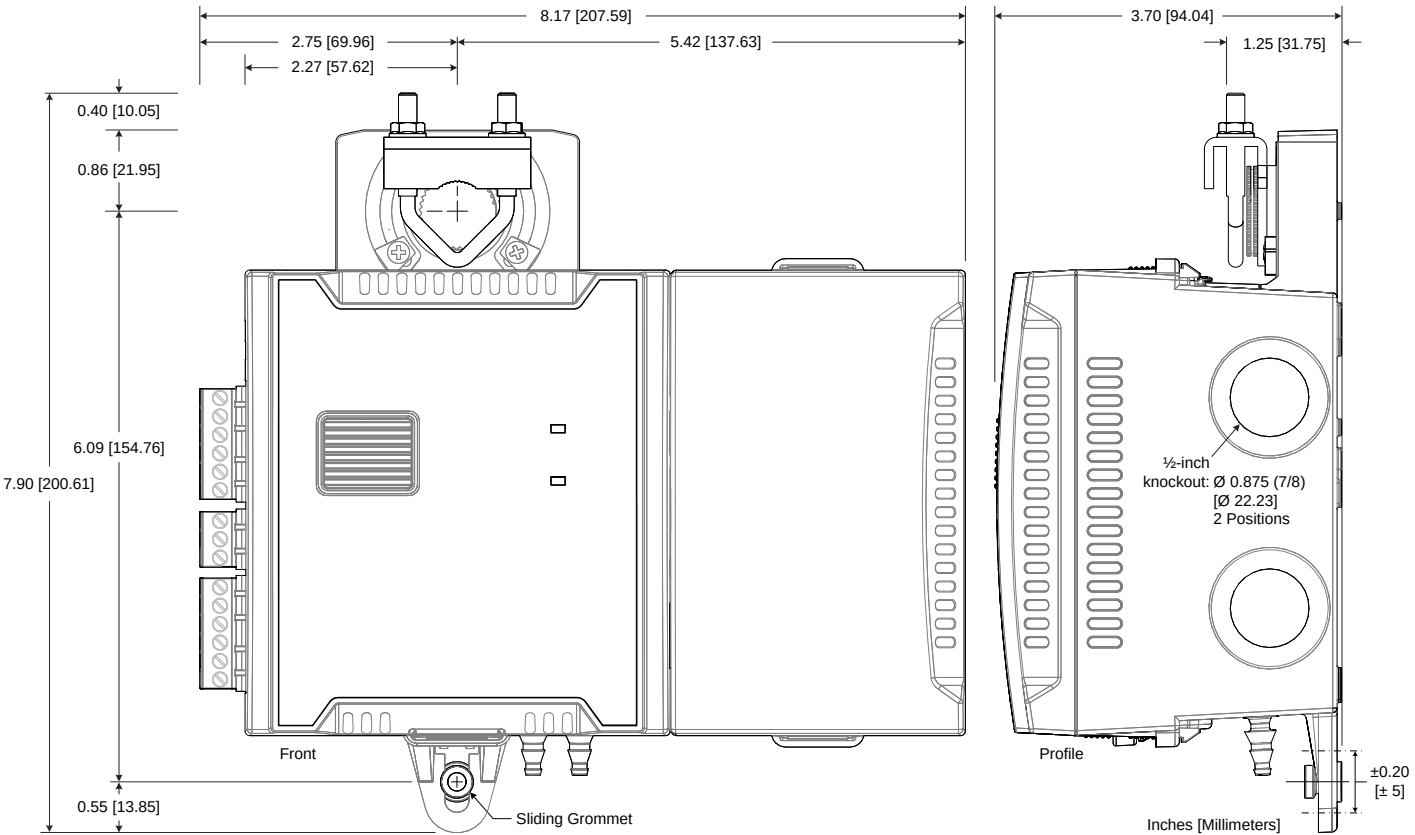
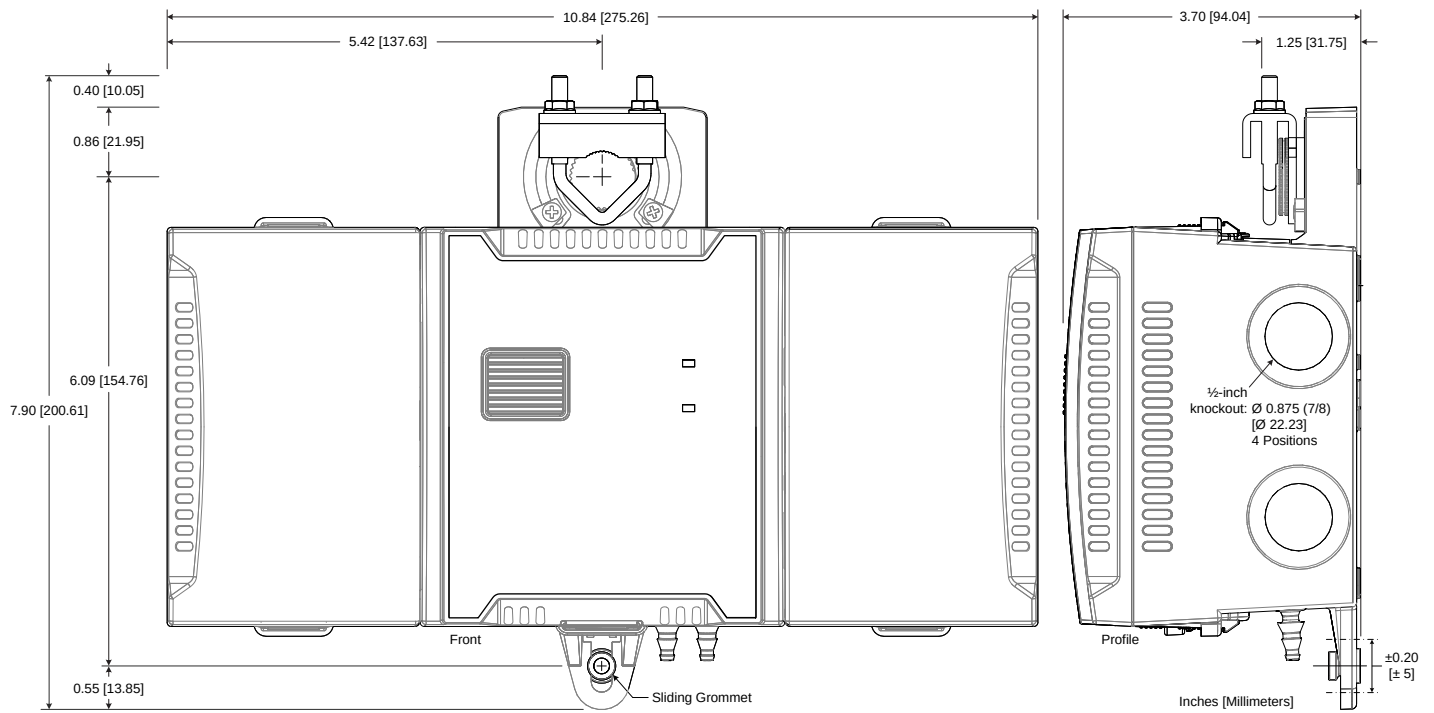

Figure 4: ECY-VAV-PoE Model Dimensions
Figure 5: ECY-VAV Series Controllers with Terminal Covers Dimensions (Typical)
- ☐ The ECY-VAV-PoE models come with a single terminal cover that has internal circuitry which must be installed on the side shown in Figure 4. A second terminal cover can be added to the other side of the ECY-VAV-PoE model controller; see Figure 5.